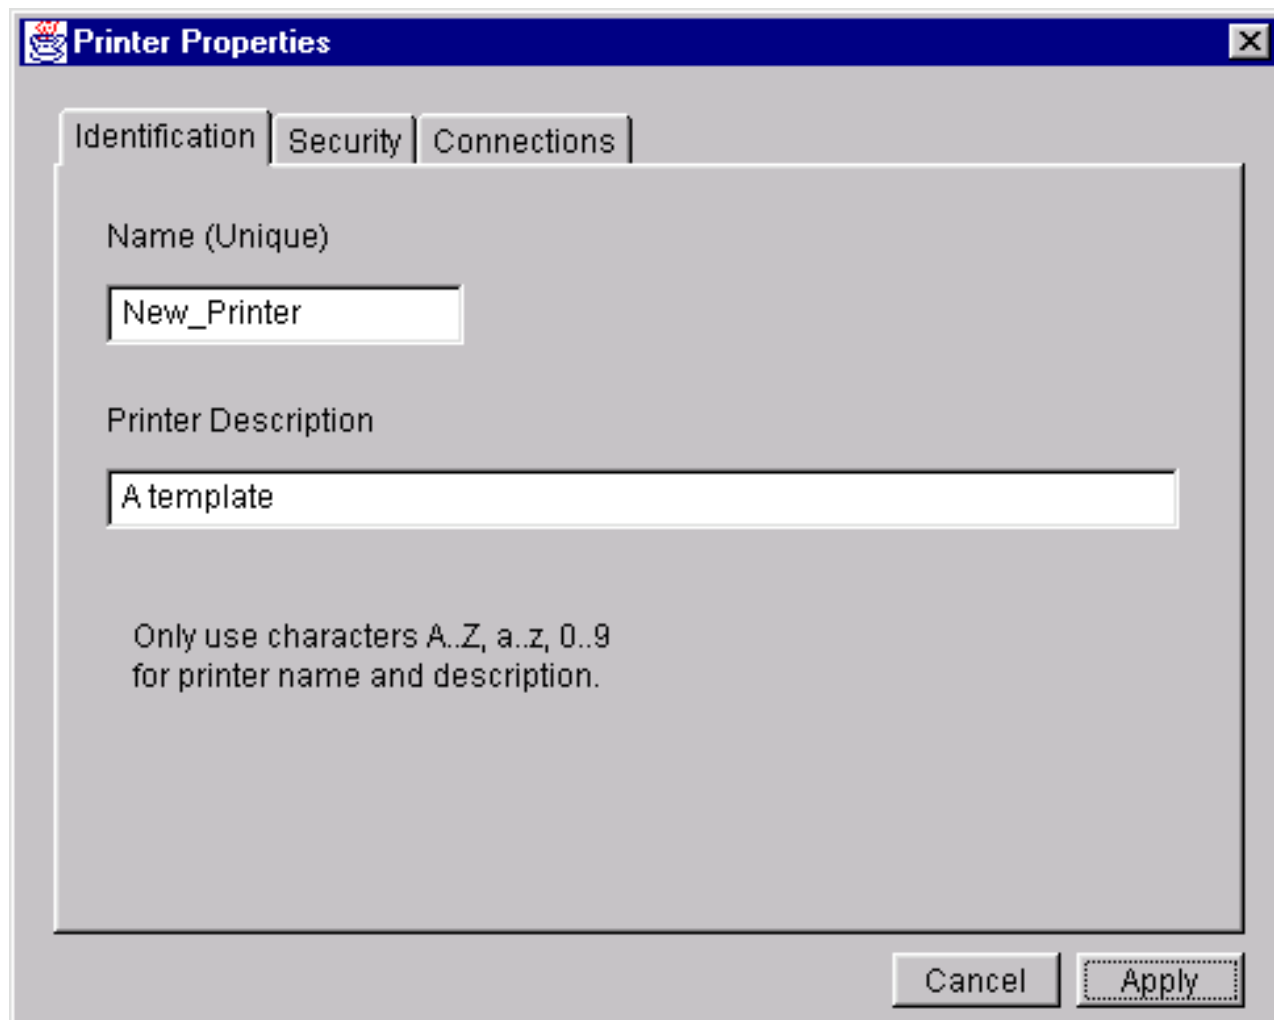

Figure 2. Printer Properties (Identification)
10. Double-click on the “New_Printer (A template)” icon. The Printer Properties window appears, as shown in Figure 2.